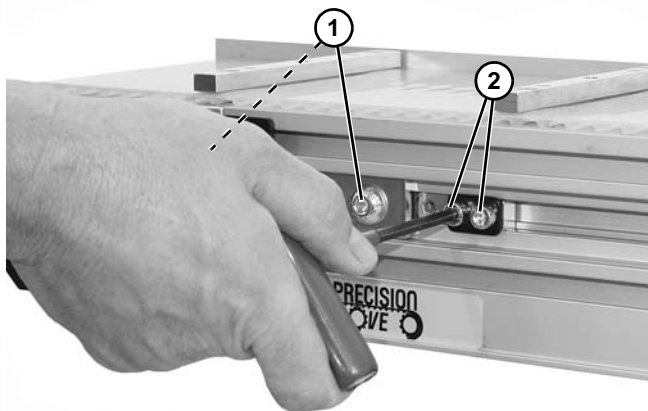

Figure 30
3. Ensure that the tail clamp bolts (**Figure 30, item 1**) on both sides of the conveyor are tightened.
4. Loosen two (2) cam fastening screws (**Figure 30, item 2**) on both sides of conveyor. Slide cam assemblies away from plates.